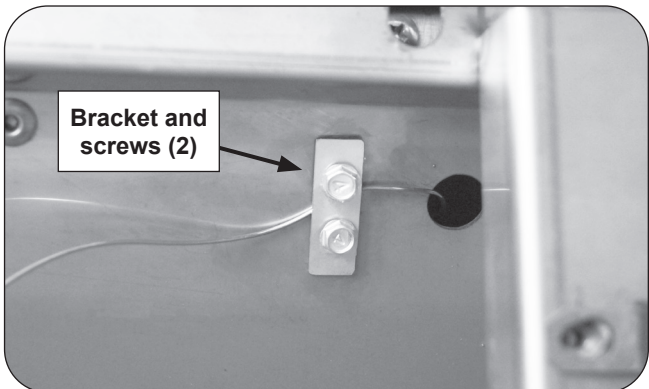

Fig. 1-3 Bracket and screw detail
6. Using a 1/4" hex driver, remove the two screws and the bracket that holds the thermostat sensing bulb. Save bracket for later installation. See Fig. 1-3.